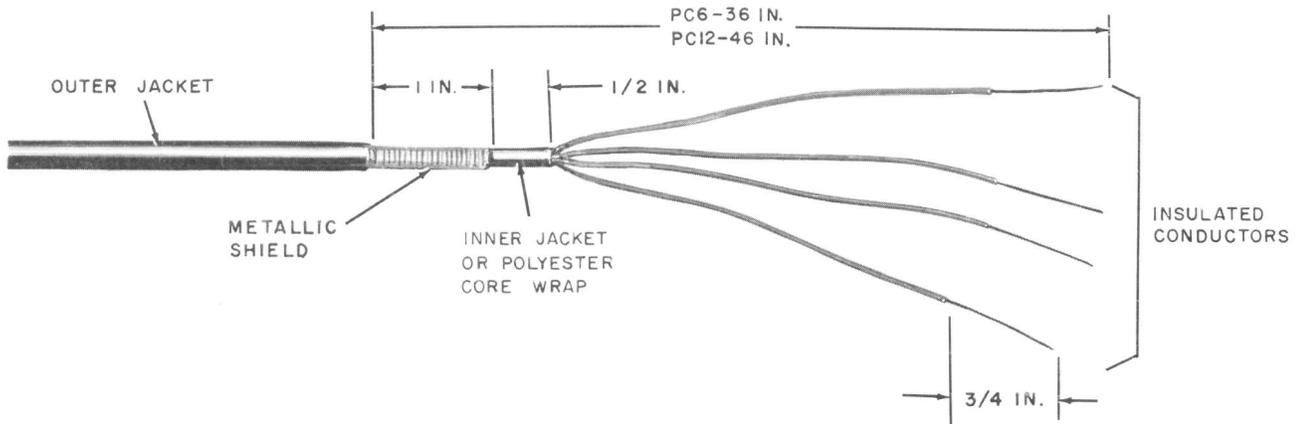

Fig. 16—Prepared Service Wire—PC6/48 or PC12/55 Cable Closure
6.03 Prepare the service wire as shown in Fig. 16 and install the metallic shield in the AT-7796X connector as illustrated in Fig. 14.